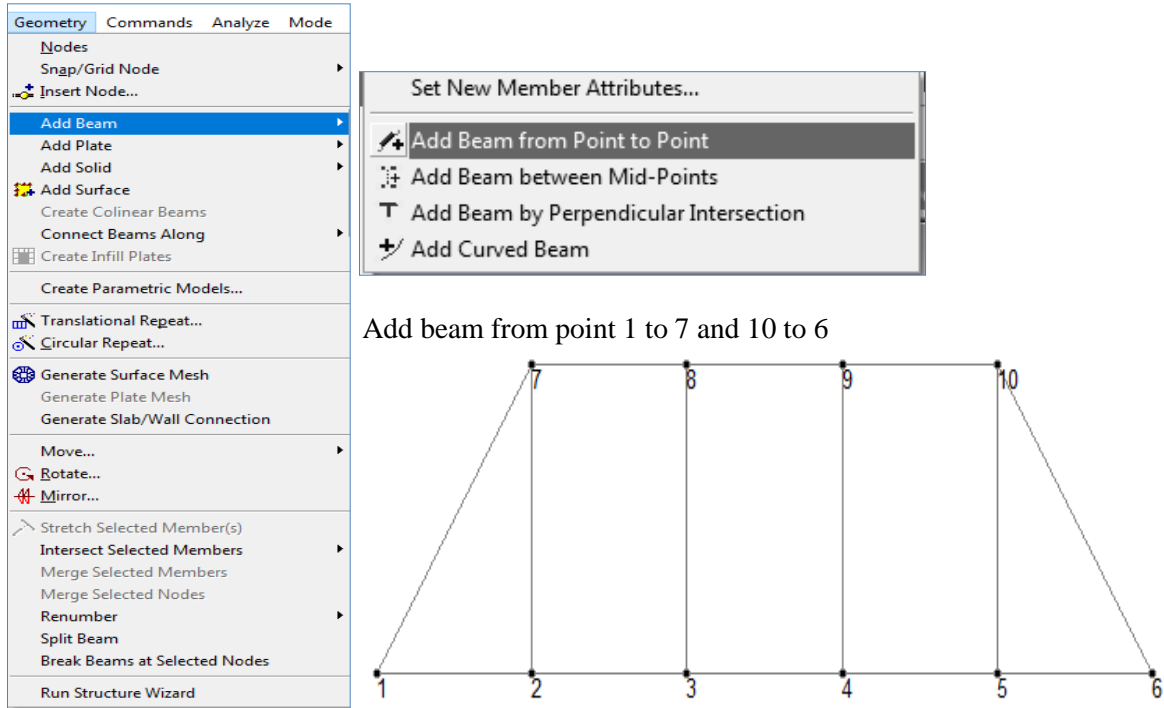

Fig: 4.21
- 1.3 Add beam from point 1 to 7 and 10 to 6. (Fig: 4.21)